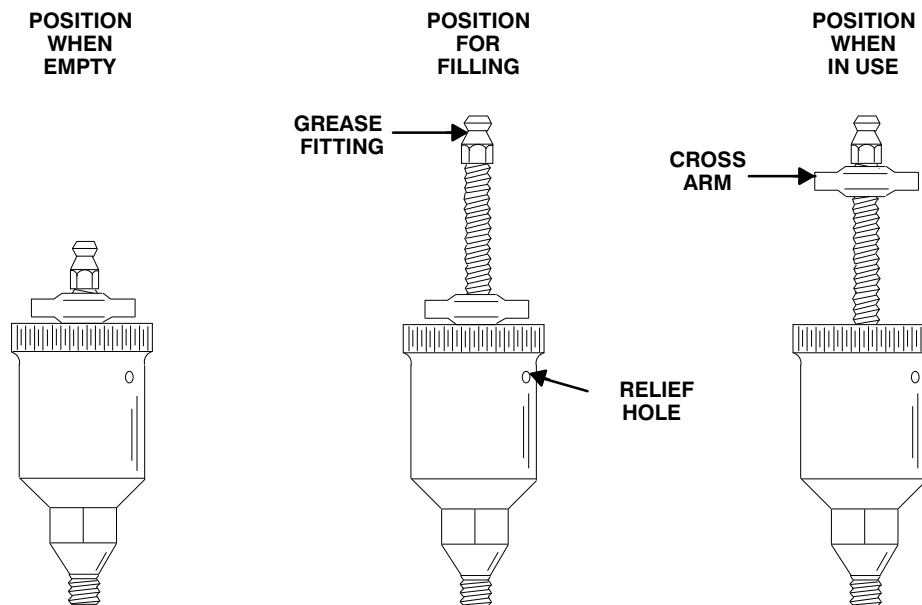

Figure 6. Automatic Lubricating Grease Cup
Fill the grease cup (6) through the grease fitting with No. 2 lithium base grease until grease escapes from the relief hole. Turn the grease cup arm counterclockwise until it is at the top of the stem; this will release the spring to apply grease to the seal (see Figure 6).